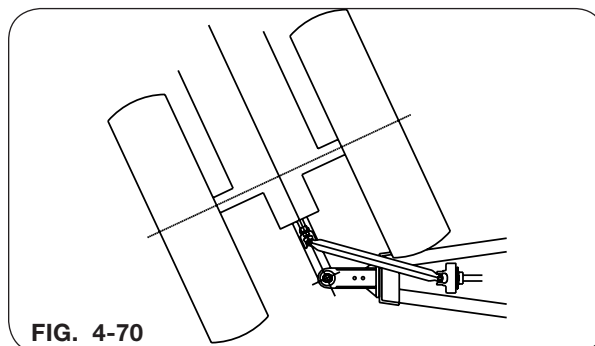

FIG. 4-70
6. Position the tractor to obtain the tightest turning angle, relative to the cart. (Fig. 4-70)